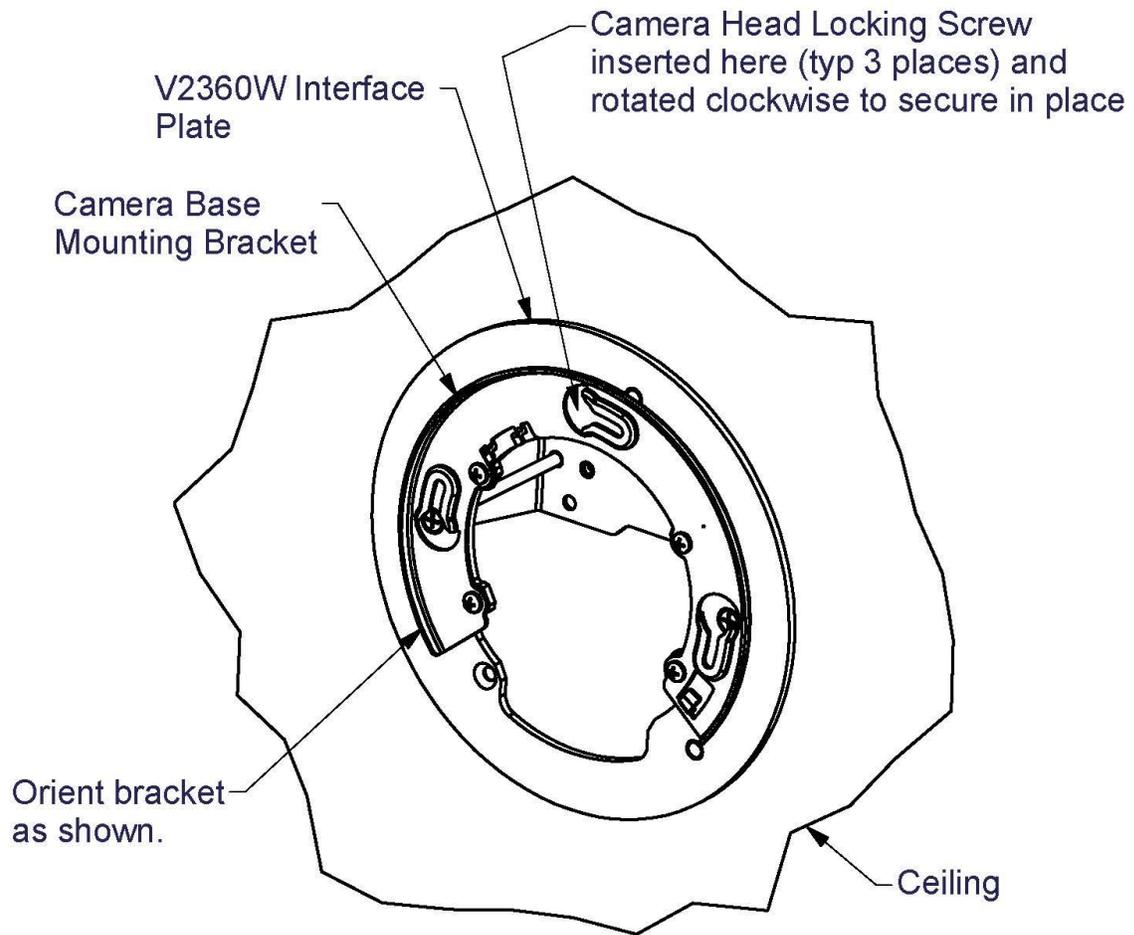
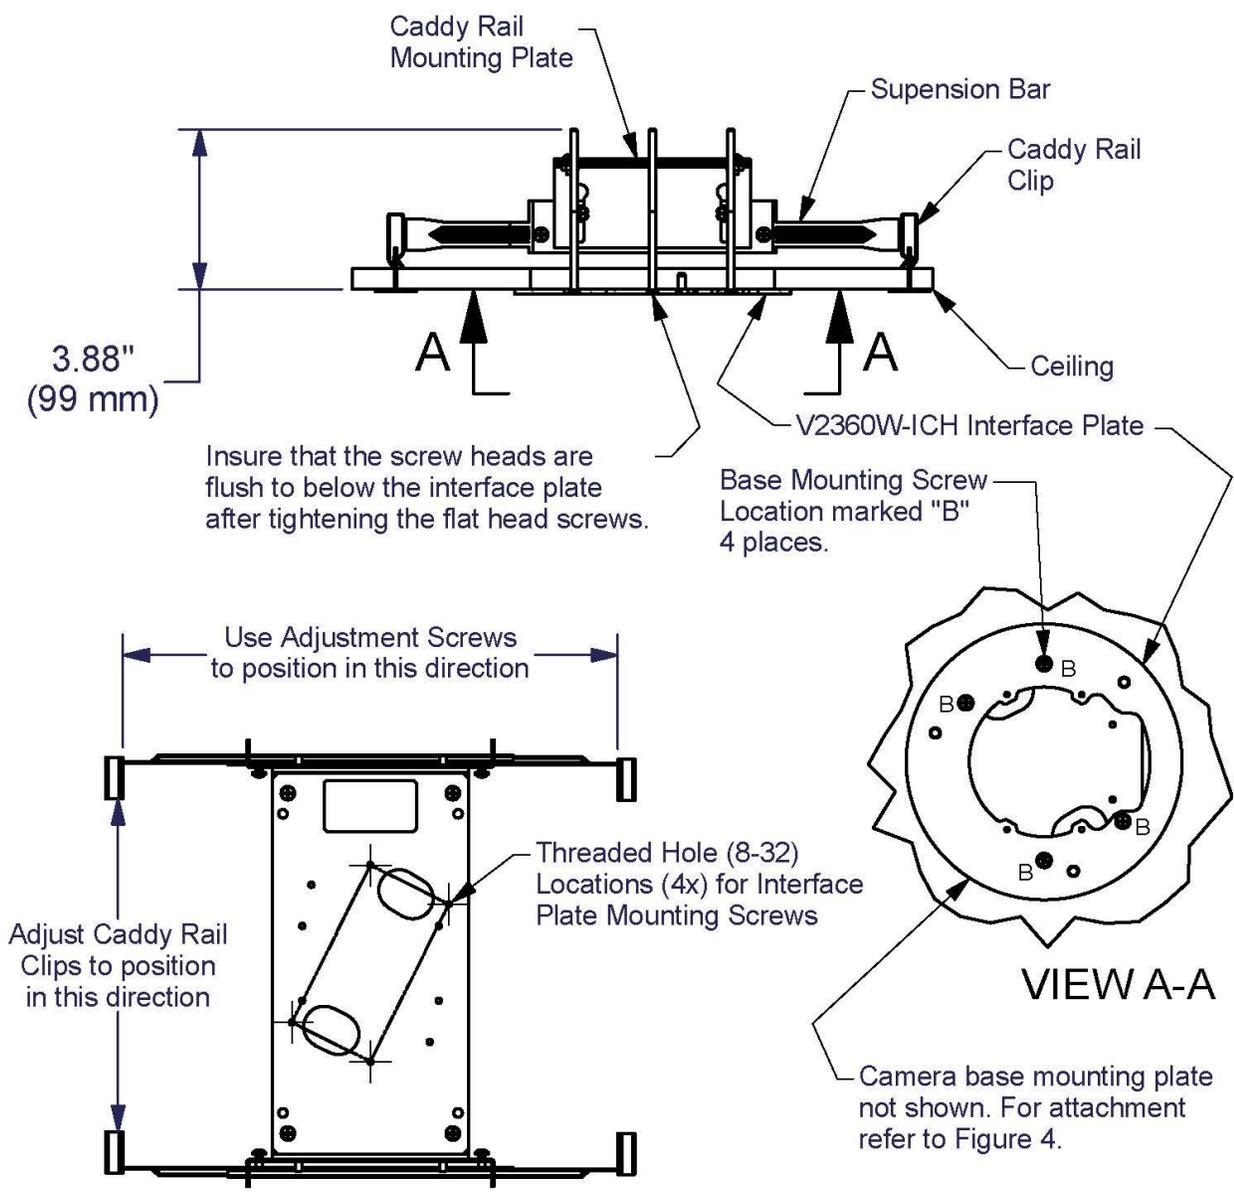

Figure 4
Figure 5
4. Remove the camera and the camera mounting bracket from the camera packaged contents. Test fit the attachment of the bracket to the camera by inserting the bracket into the three (3) camera mounting screws and rotating it into its installed secured position. (This is similar to the procedure for installing a smoke detector on a ceiling.) The mounting screws may have to be slightly loosened to ensure that the bracket rotates freely to its secured position. Refer to the Quick Guide XX318-70 for part identification.
5. Rotate and remove the camera base mounting bracket from the camera and secure the base mounting bracket to the interface plate with the 6-32 pan head screws (4) provided. Refer to Figure 4.
7. Attach the V2360W to the camera base mounting bracket by inserting the camera mounting screws into the camera base mounting bracket (see Figure 4) and rotating the camera base to secure it in place. Next tighten the security locking screw on the base to lock the camera base assembly to ceiling. Refer to the V2360W camera quick guide manual for this operation.
4. Working from the adjacent tile area, position this rail/bracket assembly squarely over the hole and fasten the caddy rail clips to the existing frame. Refer to Figure 5.
6. Secure the interface plate to the caddy rail mounting plate with interface plate pins (3) inserted into the hole using the four (4) 8-32x4 flat head screws provided. Align the four (4) countersunk holes in the interface plate to the four (4) holes in the caddy rail mounting plate. Tighten each screw a little at a time until snug. Do NOT OVERTIGHTEN screws. Refer to Figure 5.
7. Remove the camera and the camera mounting bracket from the camera packaged contents. Test fit the attachment of the bracket to the camera by inserting the bracket into the three (3) camera mounting screws and rotating it into its installed secured position. (This is similar to the procedure for installing a smoke detector on a ceiling.) The mounting screws may have to be slightly loosened to ensure that the bracket rotates freely to its secured position. Refer to the Quick Guide XX318-70 for part identification.
8. Rotate and remove the camera base mounting bracket from the camera and secure the base mounting bracket to the interface plate with the 6-32 pan head screws (4) provided. Attachment is the same as shown for the V2360W-ICH. Refer to Figure 4.
10. Attach the V2360W to the camera base mounting bracket by inserting the camera mounting screws into the camera base mounting bracket (see Figure 4) and rotating the camera base to secure it place. Next tighten the security locking screw on the base to lock the camera base assembly to ceiling. Refer to the camera quick guide manual for this operation.